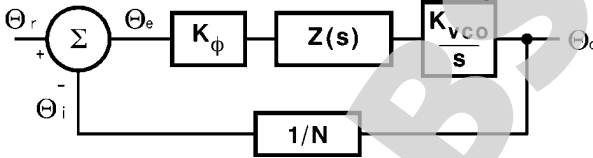
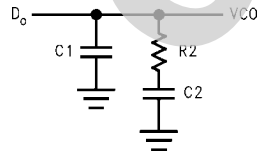

FIGURE 2. PLL Linear Model
FIGURE 3. Passive Loop Filter
A linear control system model of the phase feedback for a PLL in the locked state is shown in *Figure 2*. The open loop gain is the product of the phase comparator gain (K_ϕ), the VCO gain (K_{VCO}/s), and the loop filter gain $Z(s)$ divided by the gain of the feedback counter modulus (N). The passive loop filter configuration used is displayed in *Figure 3*, while the complex impedance of the filter is given in *Equation 1*.